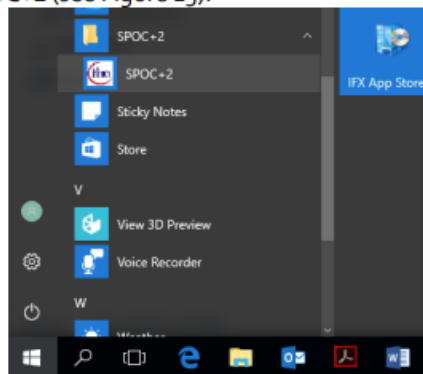

Figure 15 - SPOC+2 - Application - Finding it
SPOC+2 (see Figure 15):
→ SPOC+2 (see Figure 15):
- Run the program by clicking on the file (see Figures 15 and 16)